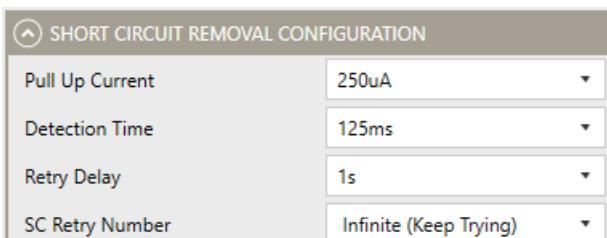

Figure 21: Short-Circuit Removal Configuration
17. Configure short-circuit removal (see Figure 21).